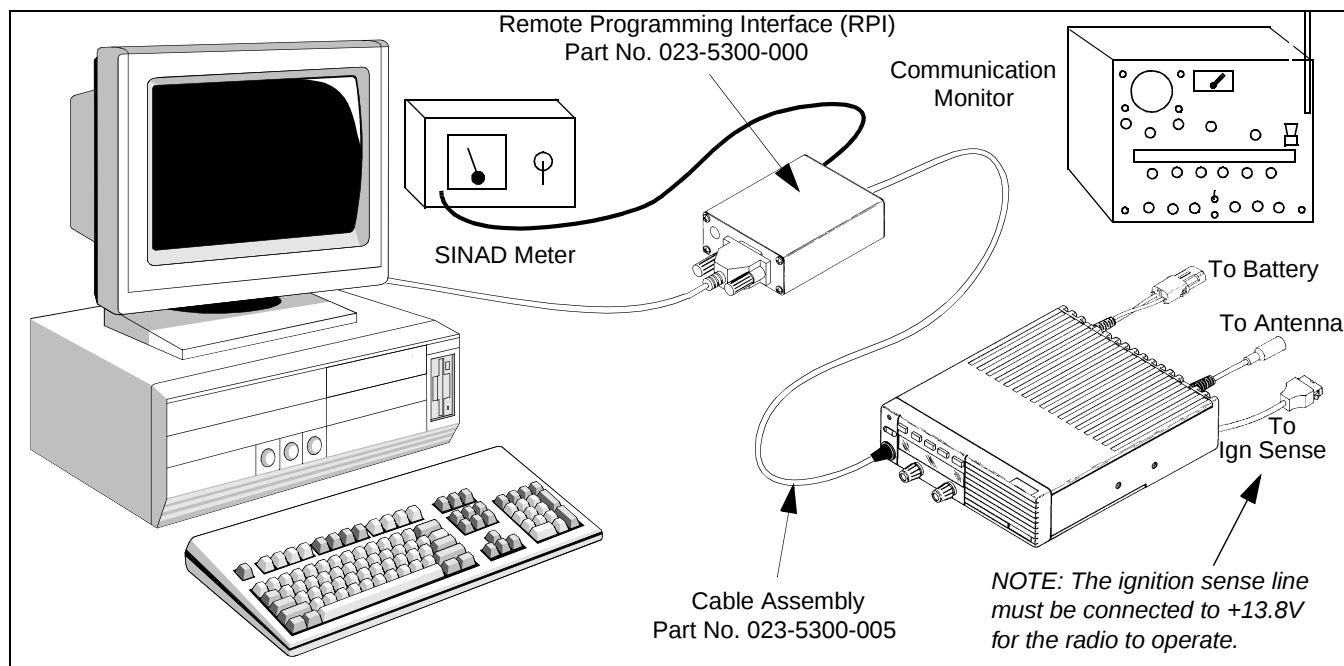

Figure 6-1 Alignment Setup
To perform transceiver alignment, a PC-compatible computer, Remote Programming Interface (RPI) Part No. 023-5300-000, and PCTune software are required (see Table 1-1). Earlier RPIs, such as Part No. 023-9800-000 or 023-9750-000, cannot be used. Refer to Section 4.1.6 for more RPI information. The programming setup is shown in Figure 6-1.
All adjustments are set digitally using the computer. Therefore, there is no need to disassemble the transceiver to access adjustment points. In addition, audio test signals are generated internally, so an audio generator is not required. The required test equipment is shown in Figure 6-1.
2. Connect the RPI to the microphone jack of the transceiver using programming cable, Part No. 023-5300-005 (see Figure 6-1).